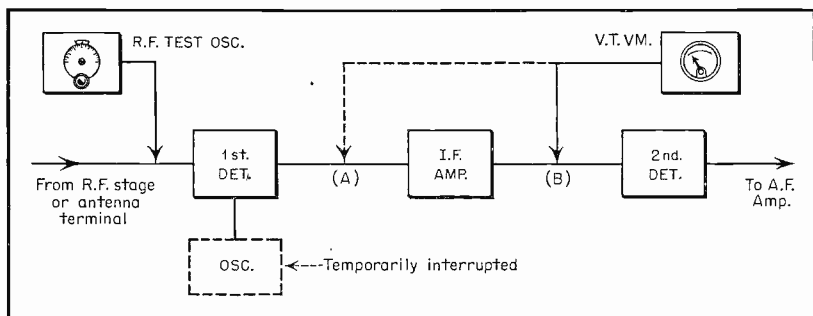

Fig. 5.
4. **I. F. Gain.** Use the arrangement shown in Figure 5. Connect the r. f. test oscillator to the 1st detector control grid. In some sets, it may be necessary to interrupt temporarily operation of the superhet oscillator. Connect the v. t. voltmeter to point B at the input of the 2nd detector. Set the oscillator to the intermediate frequency of the receiver, using either a modulated or unmodulated signal, and advance the output attenuator until a good, readable deflection of the meter is obtained. Record this reading as E_1 . Read the microvolts output of the test oscillator from the calibrated attenuator and call this voltage E_2 . Transfer the voltmeter to point A at the plate terminal of the 1st detector and increase the oscillator output further until the original voltmeter deflection (E_1) is obtained. Read the attenuator microvolts setting again and call this voltage E_3 . The i. f. gain then may be determined by dividing E_3 by E_2 : E_3/E_2 .
5. **I. F. Bandwidth.** Use the arrangement in Figure 5, with the v. t. voltmeter first at point B. Set the oscillator to the receiver intermediate frequency, using either a modulated or unmodulated signal. Advance the